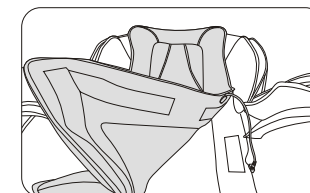

Figure 2
- Remove the back cushion (note: please ensure the heat wire in the cushion was unplugged before remove). (figure 2)